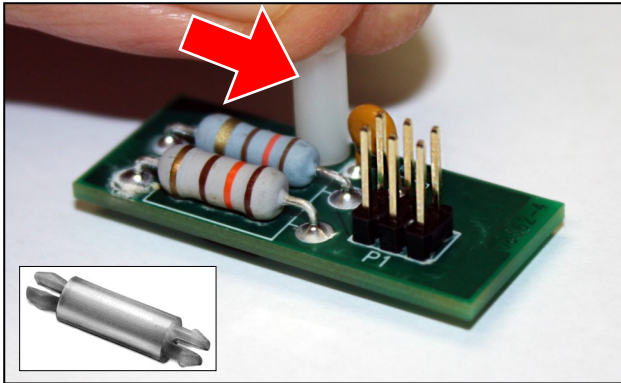

Fig. 1: Standoff (arrow)
1. Insert the plastic Standoff into the bottom of the **ISEC-2WF-MOD** (Fig. 1).